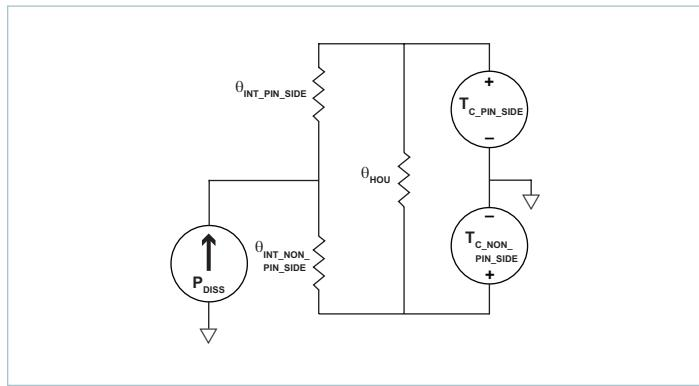
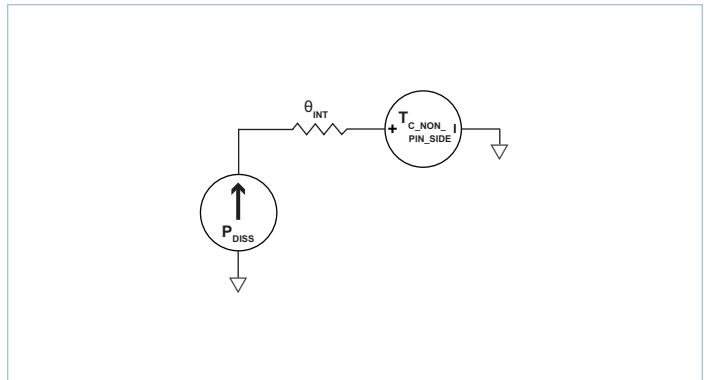

Figure 22 — Double-sided cooling thermal model
Figure 23 — Single-sided cooling thermal model
The VIA package provides effective conduction cooling from either of the two module surfaces. Heat may be removed from the pin-side surface, the non-pin-side surface or both. The extent to which these two surfaces are cooled is a key component for determining the maximum power that can be processed by a BCM, as can be seen from the specified thermal operating area in Figure 1. Since the BCM has a maximum internal temperature rating, it is necessary to estimate this temperature based on a system-level thermal solution. For this purpose, it is helpful to simplify the thermal solution into a roughly equivalent circuit where power dissipation is modeled as a current source, isothermal surface temperatures are represented as voltage sources and the thermal resistances are represented as resistors. Figure 22 shows the "thermal circuit" for the BCM in a VIA package.
- Single-side cooling: the model of Figure 22 can be simplified by calculating the parallel resistor network and using one simple thermal resistance number and the internal power dissipation curves; an example for non-pin side-cooling only is shown in Figure 23.